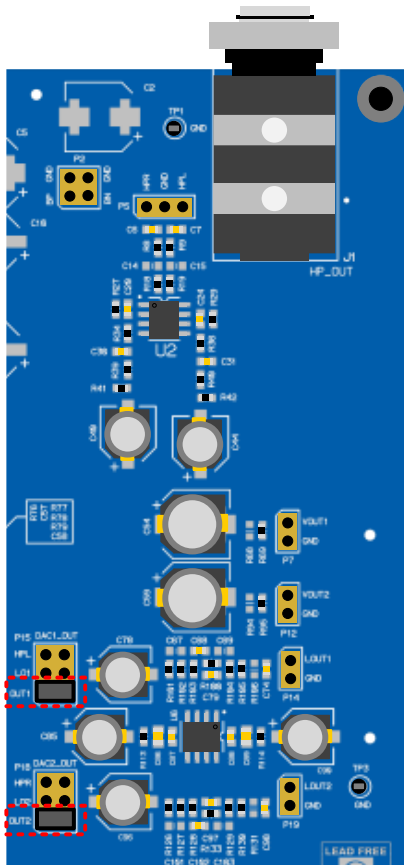

Figure 13: DAC Output to OUT1/OUT2
- OUT1/OUT2 (Default) – 1 V_{RMS} output on Dunglass OUT1 and OUT2, shown in Figure 13.